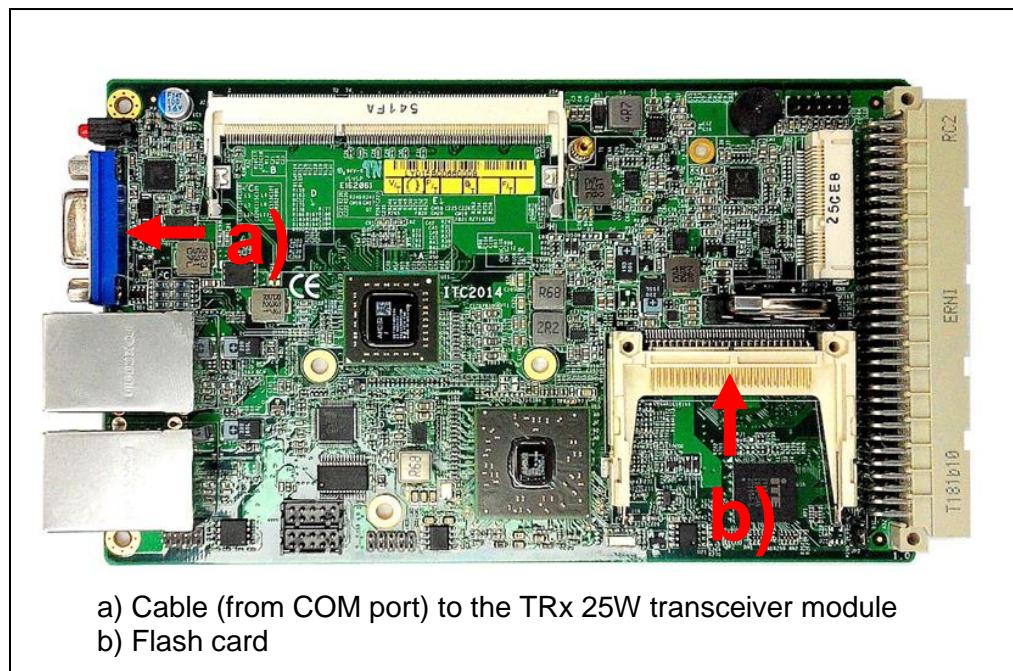

Figure 44: Controller wiring
- Correctly connect the connecting cable to the controller (see Figure 44)